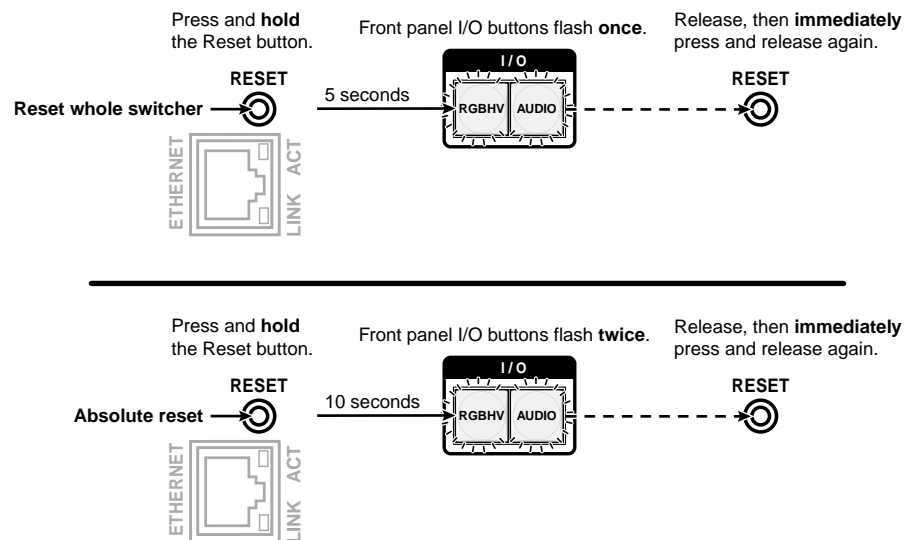

Figure 56. Whole Switcher and Absolute Resets
1. Use an Extron Tweezer or other small screwdriver to press and **hold** the Reset button until the front panel I/O buttons (RGBHV [CrossPoint switchers] or Video [MAV Plus switchers])) and Audio buttons blink once (reset whole switcher) or twice (absolute reset) (see figure 56).